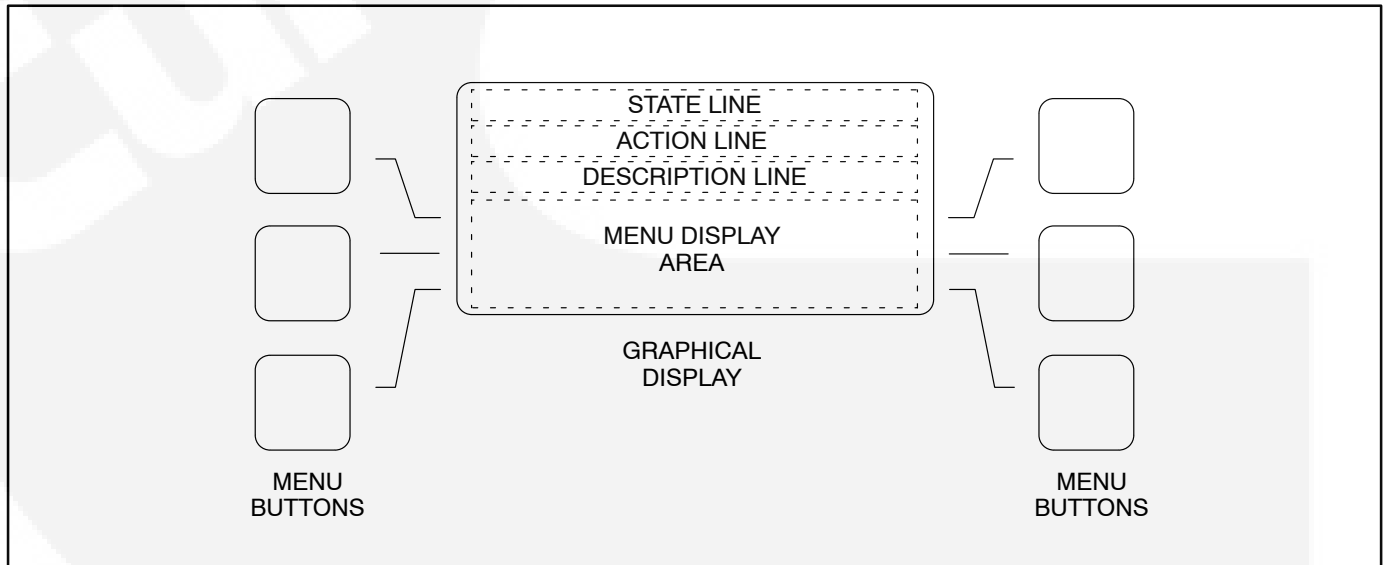

FIGURE 2-2. GRAPHICAL DISPLAY AND MENU SELECTION BUTTONS
- *State Line* – modes of operation, such as Stopped, Time Delay To Start, Warm Up At Idle, etc. (see Figure 2-2), and paralleling operations, such as Standby, Dead BUS Close, Synchronize, Load Share and Load Govern.
If the genset contains the optional graphical display and a fault occurs, the fault code/message will be displayed in the display Description Line (Figure 2-2). If the control does not contain the graphical display, the fault code is read from the Warning and Shutdown status indicators.
Figure 2-2 shows the graphical display and the menu selection buttons.